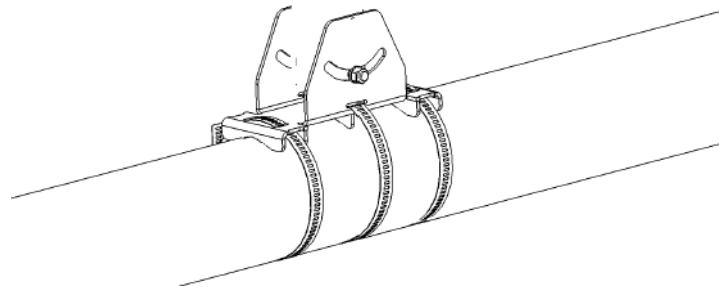

Figure 2-14: Mounting Tilt Accessory on Non-Vertical Pole
- Thread the metal bands provided with the tilt accessory through the slits in the bracket and attach to the pole as shown in Figure 2-14.